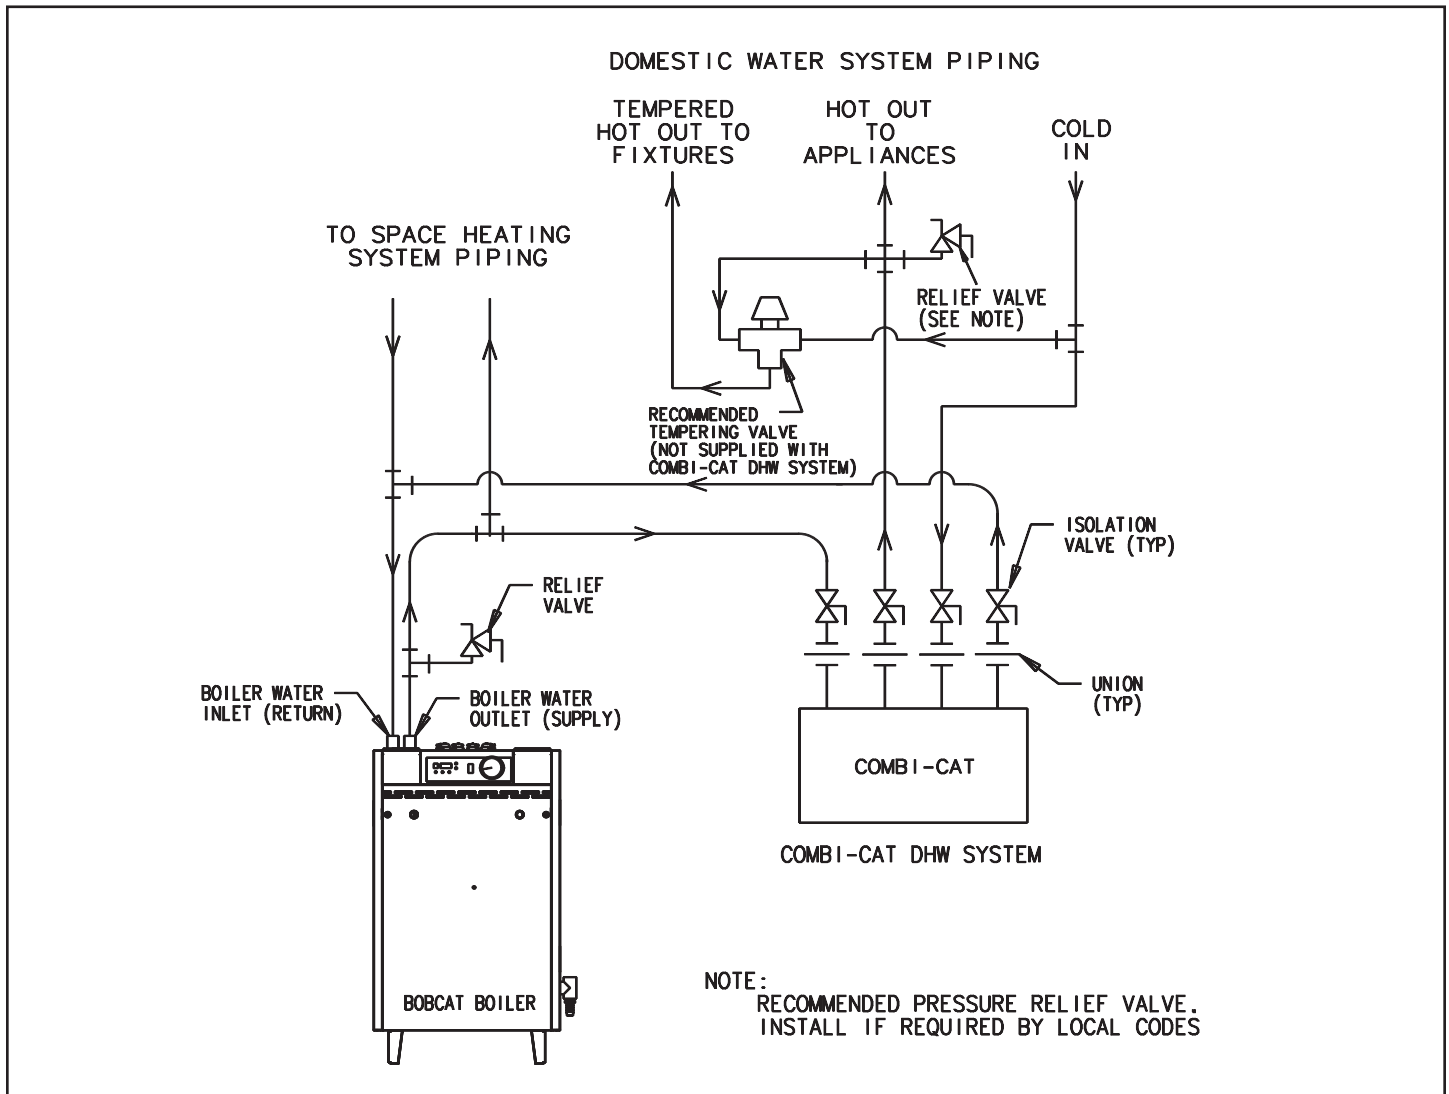

Figure 3. Water piping from boiler to Combi-Cat DHW system (Bobcat B-120 shown)
A tempering valve is recommended to be installed on the hot water outlet to all fixtures where direct user contact can be made with the water supplied by the DHW system, to prevent any possible scalding conditions. See Figure 3 for the appropriate installation method of this device (not supplied with the Combi-Cat DHW system).
1. Make all piping connections to and from the DHW system as shown in Figure 3.
CAUTION: A tempering valve is recommended to be installed on the hot water outlet to all fixtures where direct user contact can be made with the water supplied by the DHW system to prevent any possible scalding conditions. See Figure 3 for the appropriate installation method of this device (not supplied with the Combi-cat DHW system).